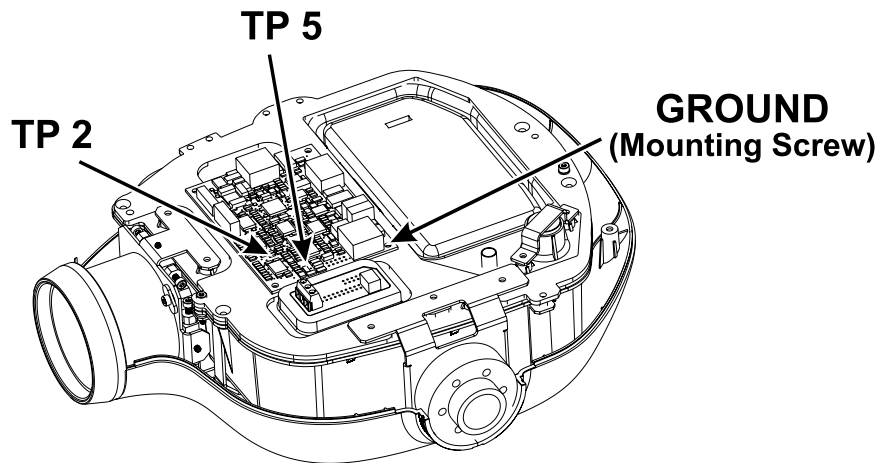

Figure 34. Test Points
Tube potential measurement is direct method by using potential divider and DSO as shown below. Potential divider is inbuilt into the INTRASKAN DC and measurement point TP2 on the control board(refer figure 34) provided for hooking measuring probe.
1. Connect the probe of the DSO to TP2 (kV feedback) with respect to ground (mounting screw) of control board as shown in the Figure 34.
1. Connect the probe of the DSO to TP5 (mA feedback) with respect to ground (mounting screw) of control board as shown in the Figure 34.